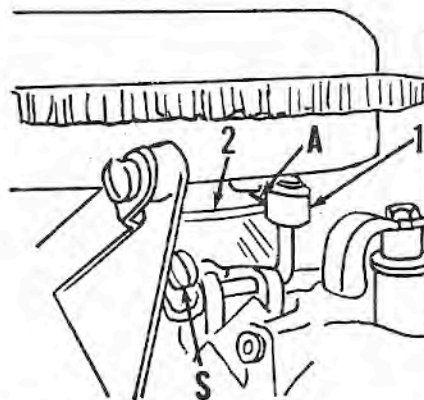

Fig. WB31—Schematic view of throttle linkage showing adjustments. Refer to text.
To synchronize the linkage, refer to Fig. WB31. With the engine not running, loosen the clamping screw (S) in throttle control bellcrank. Move the speed control grip or lever until the scribe mark (A) on throttle cam (2) is aligned with roller on cam follower (1). Move cam follower until it just